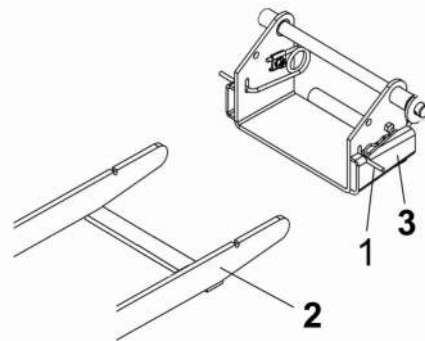

Figure 5
- Attach the snowblower to the tractor sub-frame by inserting the blower's male hitch flat bar (fig. 5, item 2) into the subframe's female channel hitch (item 3). Verify so the male hitch is entered to its maximum and locked in place by the springs (item 1).